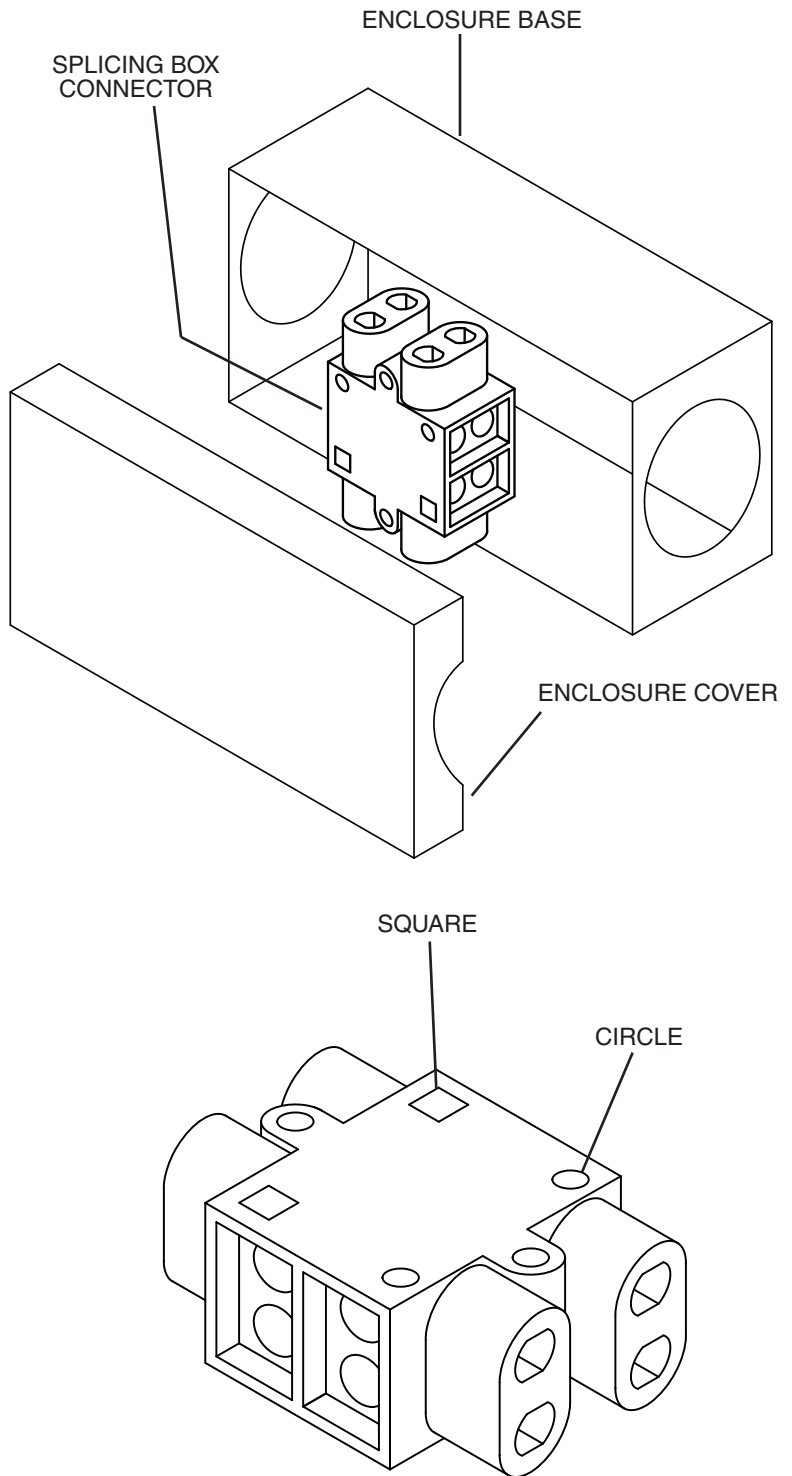

FIG. 1
- Use only one conductor per opening on the splicing box connector. **NOTE:** The splicing box body is marked with either a circle or a square on the surface adjacent to the conductor openings. (See Figure 1.) Connections of equal polarities must consistently use the same markings. For example, all positives "+" use the circles. DO NOT PLACE OPPOSITE POLARITIES together in the circle position and/or OPPOSITE POLARITIES together in the square position. Although it is not necessary, it is good practice to keep the polarity signs consistent when using multiple splicing box connectors within a single system.